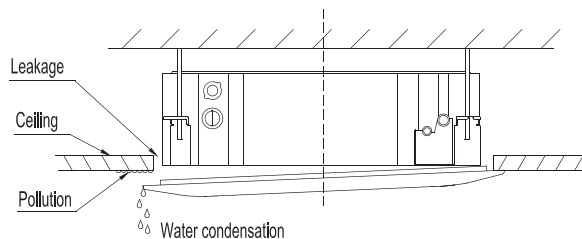

Fig.5-12
- Malfunction described in Fig.5-12 can be caused by inappropriate tightness the screw.